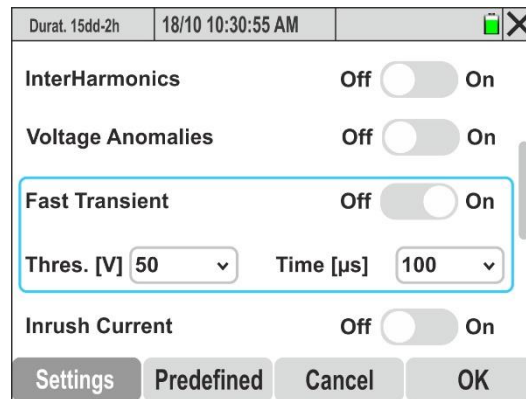

Fig. 33: Activation/deactivation of fast voltage transients recording (spikes)
24. Touch and move the virtual selector of the "Fast Transient" field (see § 10.6) to "On" (activation of fast voltage transients recording with **minimum resolution 1µs**) or to "Off" (deactivation of fast voltage transients recording). The screen in Fig. 33 is shown on the display